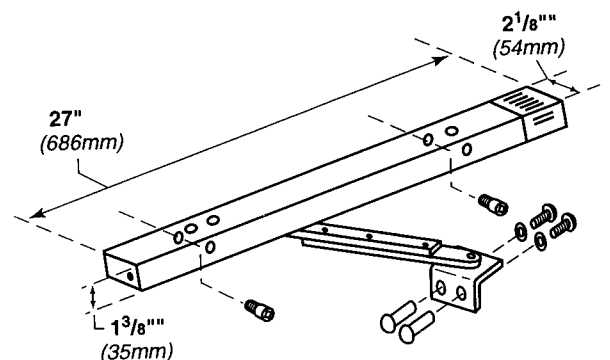

Figure 4
14. Tighten arm set screws (see Fig. 4). (The door should now be held open.)